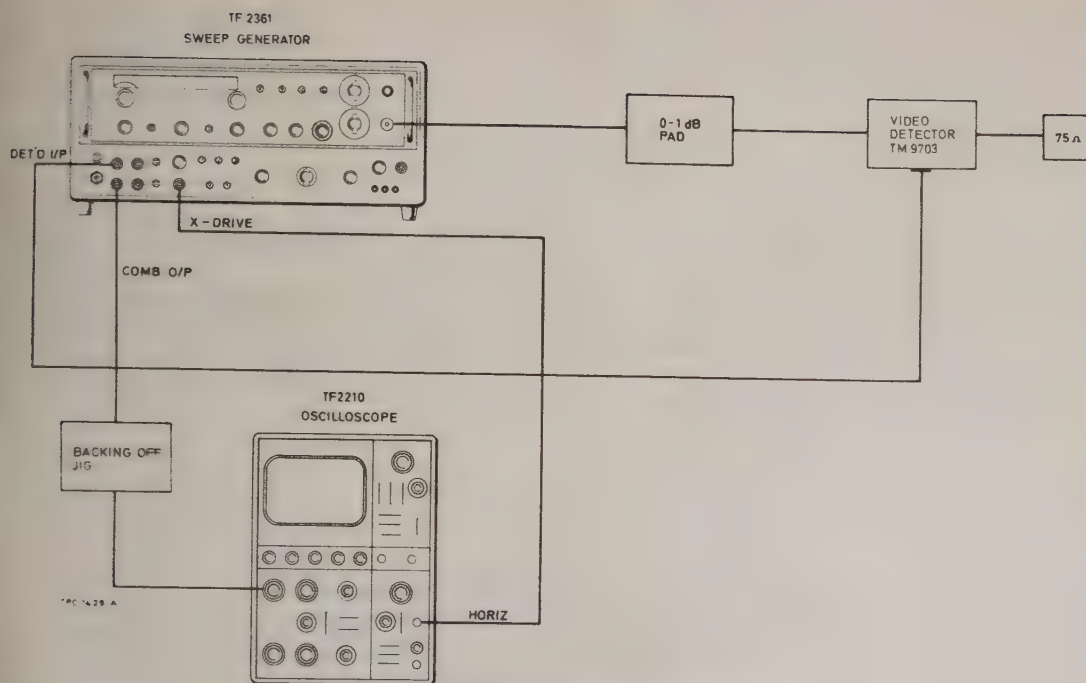

Fig. 5.26 Connection diagram—fine level check
(12) Connect the video a.l.c. detector (switched to 75 Ω) to the video sweep unit output, and the output of the a.l.c. detector loaded with 75 Ω to the valve voltmeter and to the external a.l.c. input socket on the main unit. Check that the valve voltmeter indicates 0.66 V $\pm 10\%$, and make a note of the exact indication. Set the A.L.C. switch to EXTERNAL and check that the level can be restored to its original value by adjustment of the A.L.C. LEVEL control.
(13) Revert to the initial conditions of Sect. 5.7.2 and connect the equipment as shown in Fig. 5.26. Set the oscilloscope sensitivity to 0.5 V/cm, switch in 1 dB on the 0 - 1 dB pad, and adjust the oscilloscope gain and the level from the backing-off jig so that a change of 1 dB covers 5 cm on the graticule.
(14) Set the FINE LEVEL SELECTOR to ALTERNATE and switch the 0 - 1 dB pad to 0 dB. Note the position of the trace, then set the FINE LEVEL control to -1 dB and note the trace separation.
(15) If the trace separation is greater than 5 cm ± 2 mm, return the FINE LEVEL control to 0 dB and note the trace level. Adjust RV3 on board 12 until the upper trace is returned to the original level noted in paragraph (14). Set the FINE LEVEL control to -1 dB and recheck the trace separation.
(16) If the trace separation is less than 5 cm ± 2 mm, return the FINE LEVEL control to 0 dB and note the trace level. Adjust RV1 on board 12 in a more clockwise direction, then readjust RV3 until the upper trace is returned to its original level noted in paragraph (14). Set the FINE LEVEL control to -1 dB and recheck the trace separation.
(17) Set the 0 - 1 dB pad to 1 dB and the FINE LEVEL control to -1 dB, then check the 5 cm trace separation. If the accuracy of the ± 1 dB points is such that one is accurate while the other is in error, then RV1 and RV3 must be adjusted to give the least possible error equalized at each end of the range.
(1) For this check you need a standard attenuator having 0 to 50 dB of attenuation in 10 dB steps and 0 to 11 dB in 1 dB steps, calibrated to an accuracy of $\pm 0.6\% \pm 0.04$ dB. The test connections are the same as in Fig. 5.26, with the standard attenuator connected in place of the 0 to 1 dB pad. Initial conditions are as in Sect. 5.7.2, except for the following: